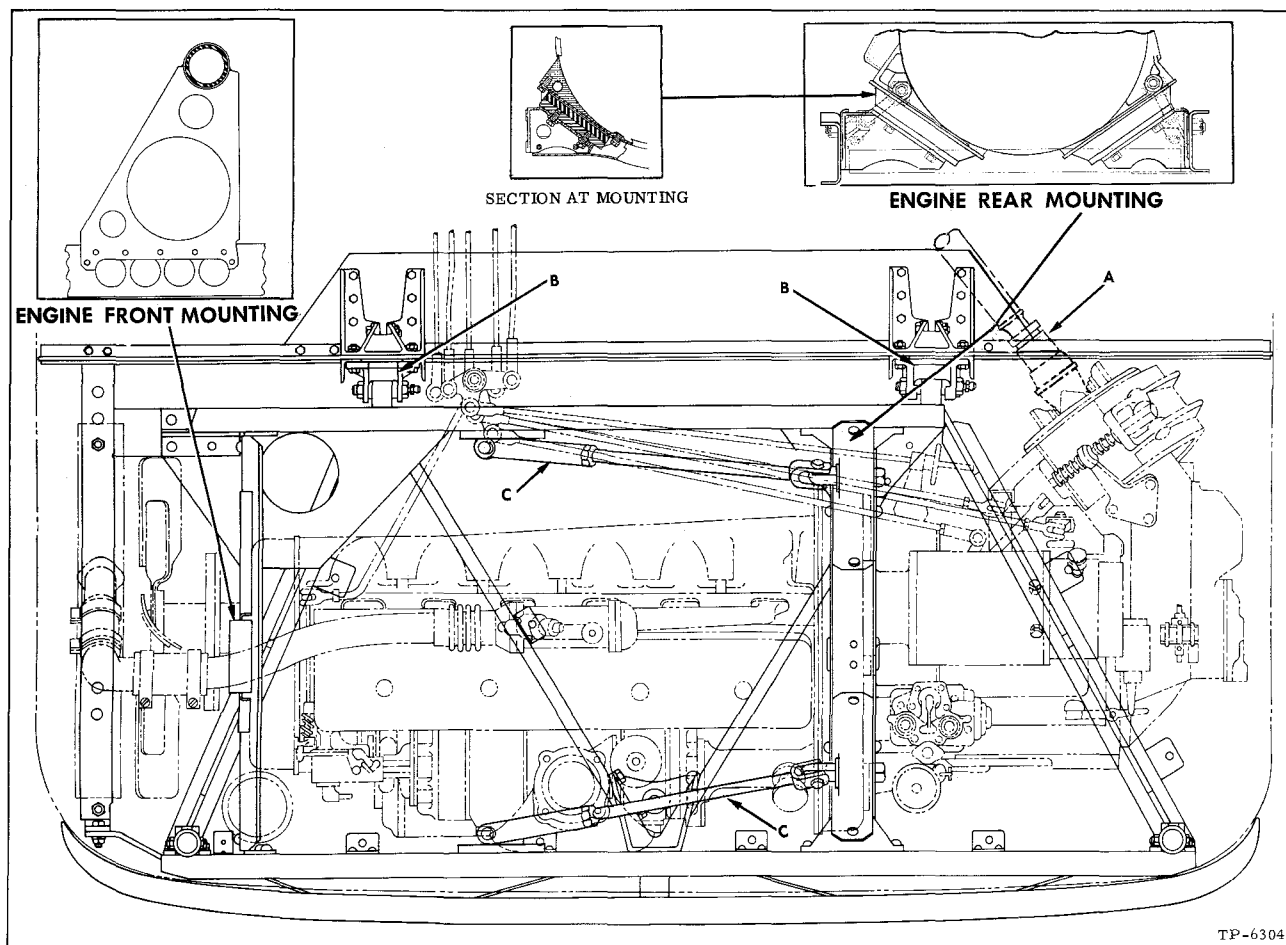

Figure 6—Power Plant Mounting
Diesel power plant including engine, clutch and transmission is mounted transversely on engine support cradle and is supported by a three point rubber mounting. Front mounting is trunnion type, while rear mounting is two point cradle type. Refer to figure 6.
Engine is held firmly in position on rear mountings by stabilizer tubes (C) installed as shown in figure 6.
Power plant, including transmission and radiator, may be removed from vehicle in following manner: Procedures outlined are in sequence and should be followed in order. Refer to figures 6 and 7.
7. Unscrew propeller shaft slip joint (A, Fig. 6). When engine is removed, propeller shaft will separate at joint.
9. Remove bolts (B) retaining bracket cap ball joint to engine bulkhead support bracket.